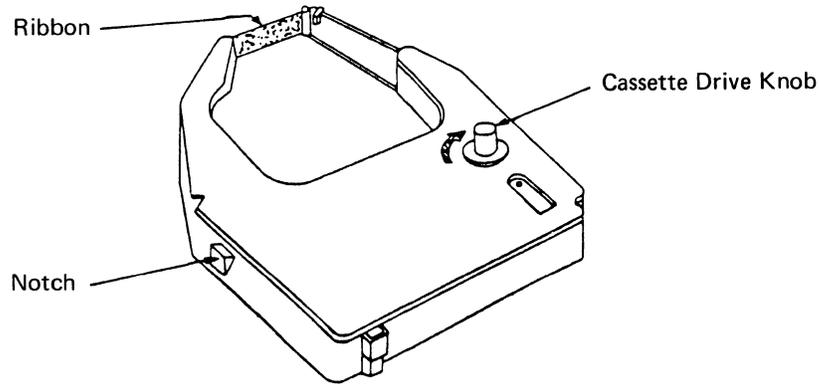
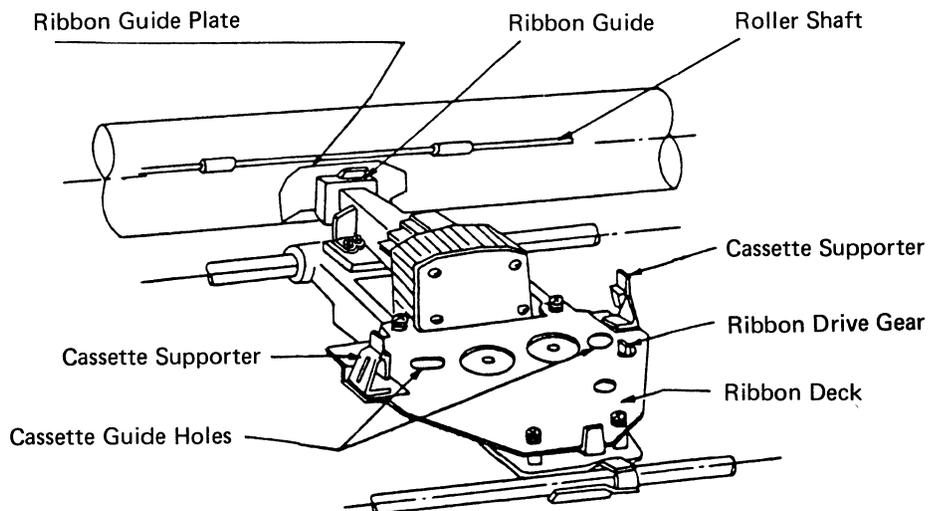

Fig. 4 Ribbon Cassette
Fig. 5 Ribbon Deck without Ribbon Cassette
- (1) Remove the carrier cover.
- (2) Move the printer carrier to a position where no roller is fitted on the roller shaft.
- (3) To install, turn the cassette drive knob of the cassette in the direction of the arrow (clockwise) to tension the ribbon. (See Fig. 4.) Holding the cassette, carefully insert the ribbon end between the ribbon guide plate and ribbon guide, and push down the cassette on the ribbon deck. At this time, align the two guide projections at the cassette bottom with the cassette guide holes. Make sure that the notches on the both sides of the cassette are supported completely by the two cassette supporters. If not supported by the cassette supporters (the cassette is raised), push down the cassette while turning the cassette drive knob clockwise. (See Fig. 5.)